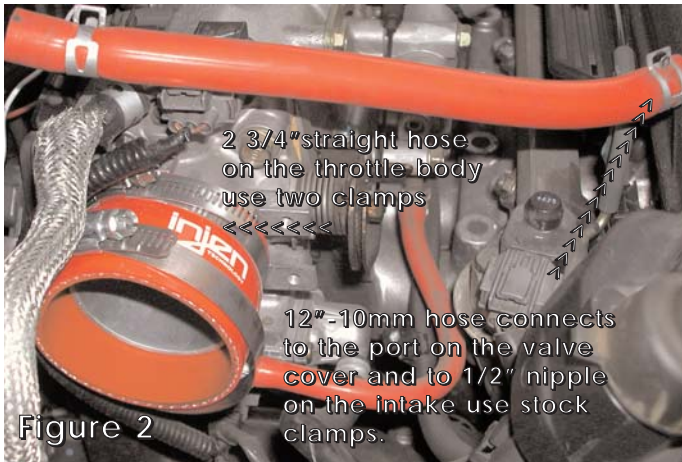

Figure 2
2. Place the 2 3/4" straight hose onto the throttle body and use two clamps. Tighten the clamp on the throttle body at this point. See fig. 2